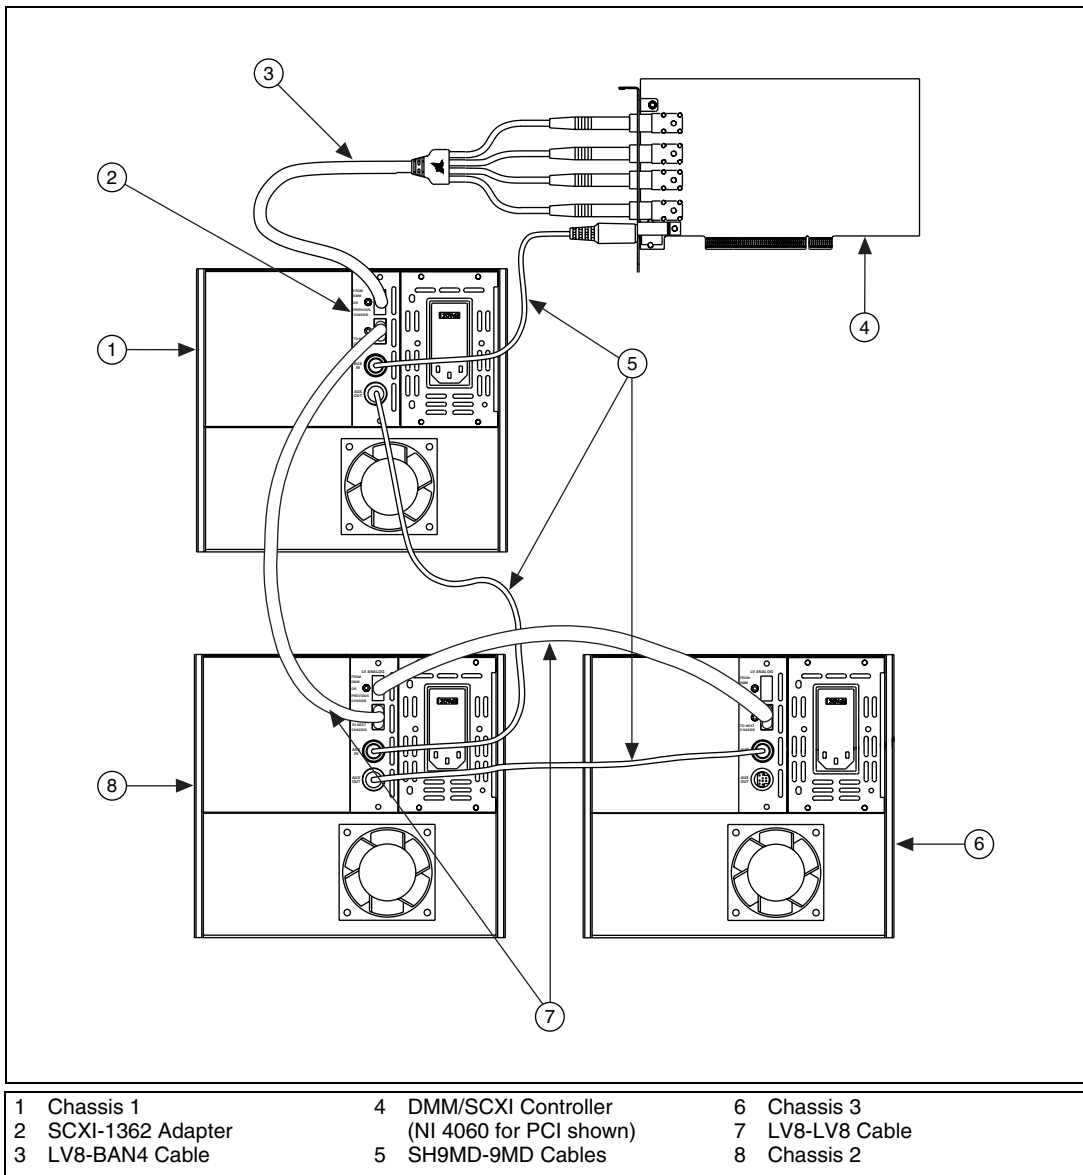

Figure 2. Installing Your SCXI-1362 in a Multichassis System
8. To add a second chassis, connect one end of the LV8-LV8 cable to the TO NEXT CHASSIS connector on the adapter panel of chassis 1 and secure the screw, as shown in Figure 2.
9. Connect the other end of the cable to the TO NEXT CHASSIS connector on the adapter panel of chassis 2 and secure the screw, as shown in Figure 2.
10. To add a third chassis, connect one end of the LV8-LV8 cable to the PREVIOUS CHASSIS connector on the adapter panel of chassis 2 and secure the screw, as shown in Figure 2.
11. Connect the other end of the cable to the TO NEXT CHASSIS connector on the adapter panel of chassis 3 and secure the screw, as shown in Figure 2.